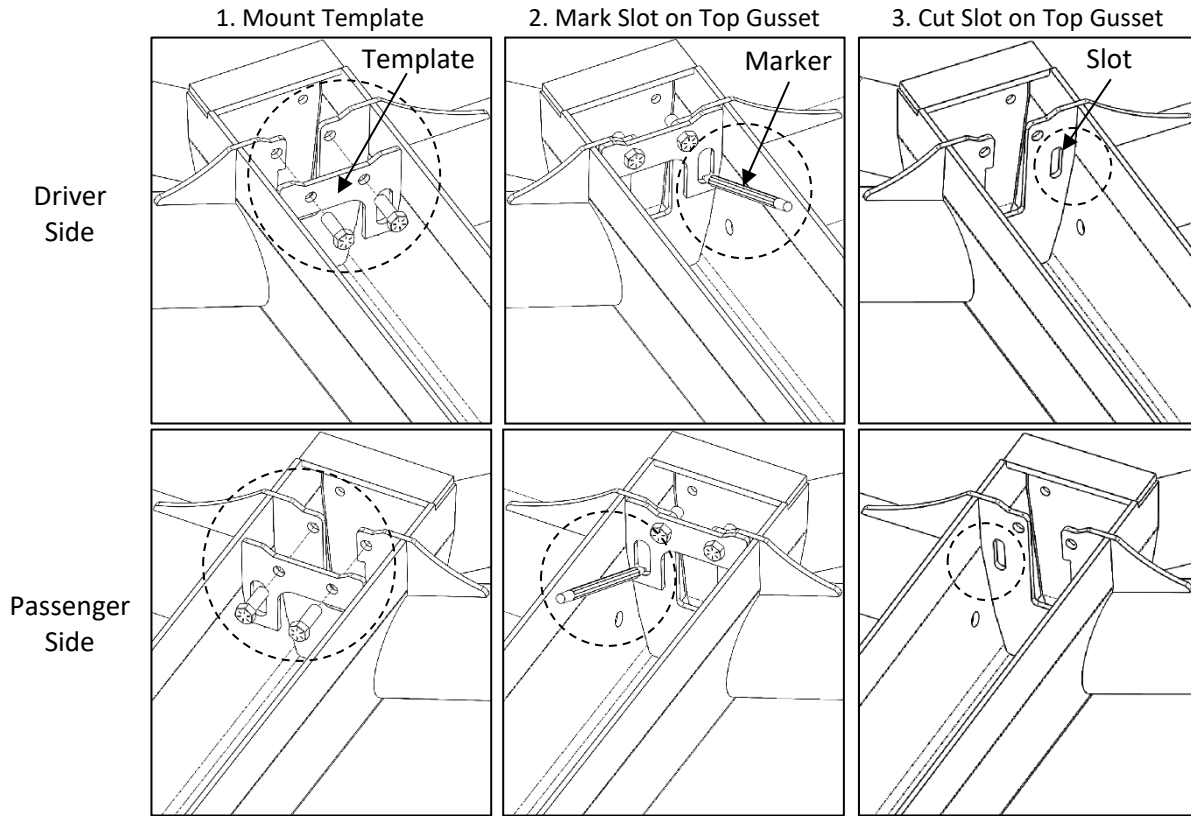

Figure B3: Modifying Top Gusset of Grille (Your Grille may not be exactly as shown)
B2. Using the provided Template, modify the Top Gusset of the driver and passenger side as shown in Figure B3 (**Pay attention to the direction of Template on driver and passenger side**). To perform the modification, follow the steps below (Please note that Slot in Template has been slightly oversized to compensate for the size of the Marker tip):
- Mount the template underneath the Top Gusset using the bolts provided for mounting latching mechanism (see Figure 1c and FigureB3-Step 1).
- After having the template securely mounted underneath the Gusset, mark the slot (see Figure B3-Step 2).
- Remove the template and start cutting the marked part on the Gusset (see Figure B3-Step 3).
- The cutting procedure is schematically shown in Figure B3 below.